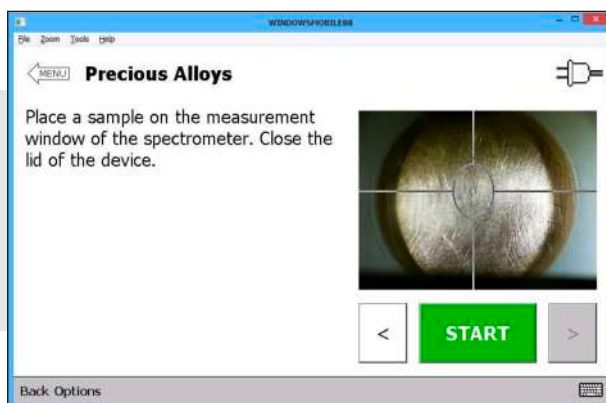

Fig.45. The window of PDA Remote Control.exe programme
4.	The window will appear with the image identical to the spectrometer screen (fig.45).